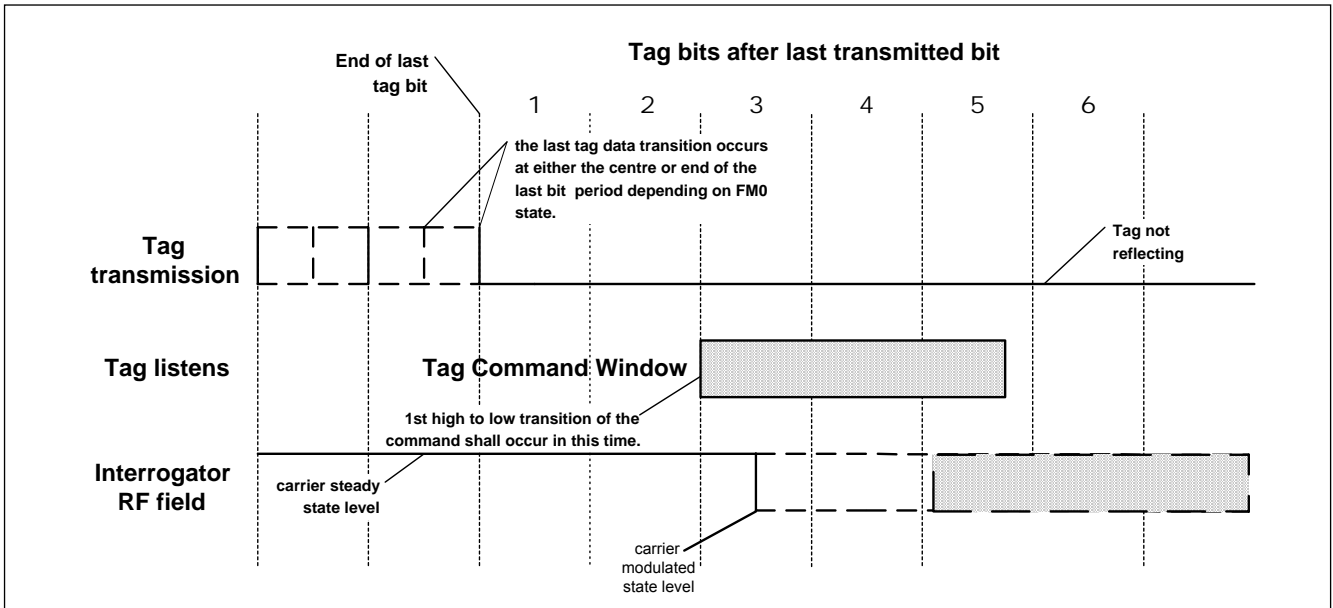

Fig. 13 - Command Window Timing
- Fig. 13 and below show the timing of the Transponder command window.